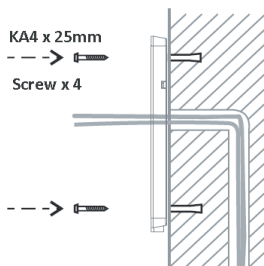

Figure 6
- B. With 4 KA4 x 25mm screws, tighten the wall-mounted hanging shell as shown in Figure 6.